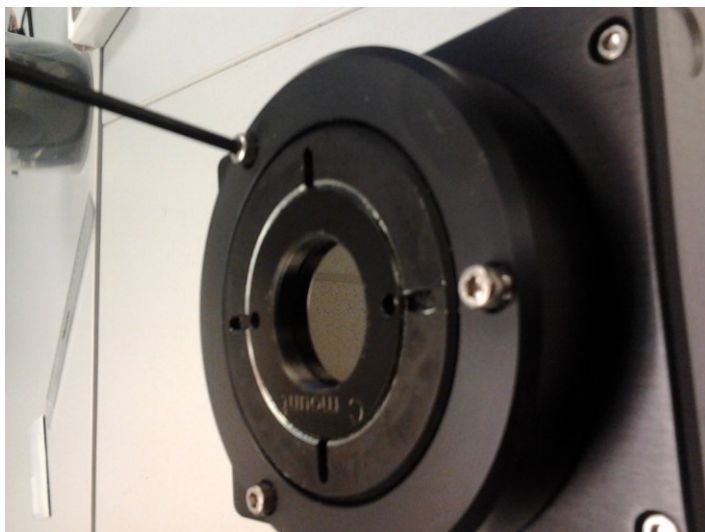

Figure 13-5 Unscrew 3 Alan keys of the F-mount
1. Unscrew the F-mount (3 Alan screws) (see Figure 13-5)